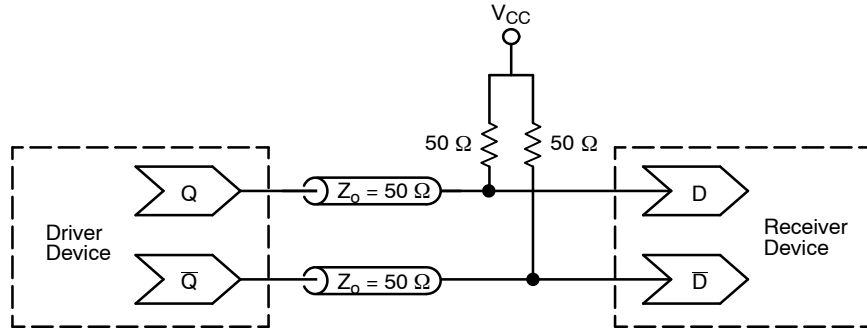

Figure 14. Typical Termination for Output Driver and Device Evaluation
1. CML outputs require  $50\ \Omega$  receiver termination resistors to  $V_{CC}$  for proper operation. See Figure 14.